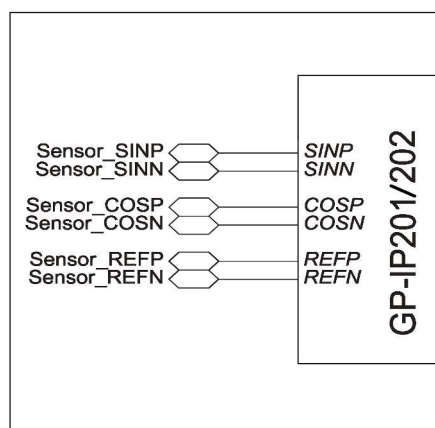

Figure 19: Differential input signals
- Sensor with differential signals (Figure 19)
- Internal clock of GC-IP201(B) is used